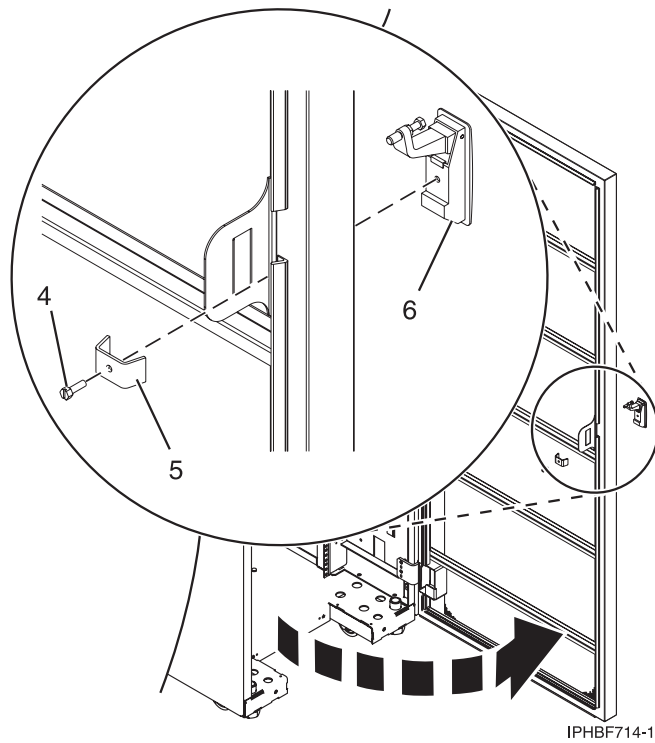

Figure 57. Removing the existing door latch.
- b. On the inside of the door, remove the screw 4 in Figure 57, that secures the lock to the rack door.
- a. Insert the keyed rack lock into the latch slot on the front of the door 6 in Figure 57.